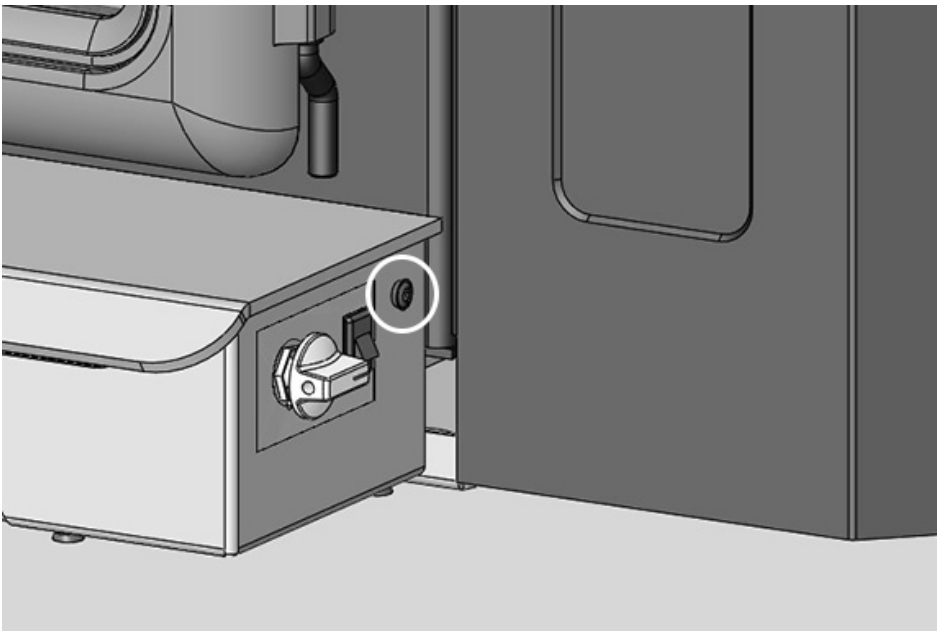

Figure 26: Remove Blower assembly.
2. Undo the screw on each end of the blower assembly then carefully slide the assembly out away from the unit. Figure 26 The power adapter wire is connected to the control so you only need to pull the Blower assembly out a few inches to access the Control Board.